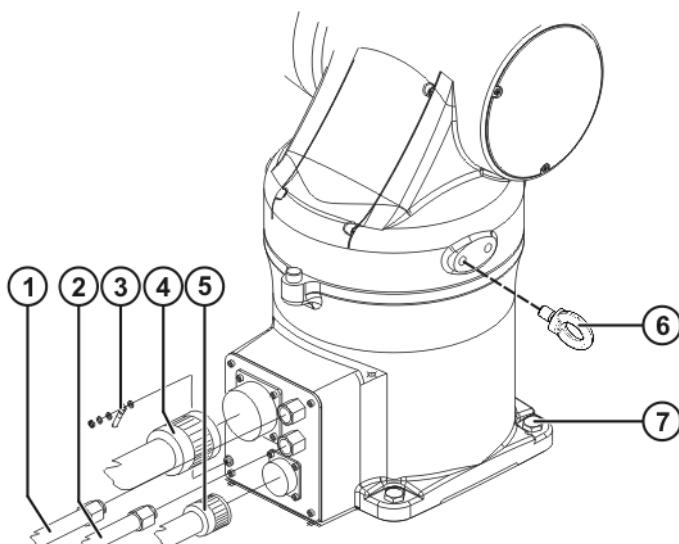

Fig. 13-1: Interface, axis 1, floor
7. Release and unplug the motor/data cable connector CN22 (**>>>** Fig. 13-1).